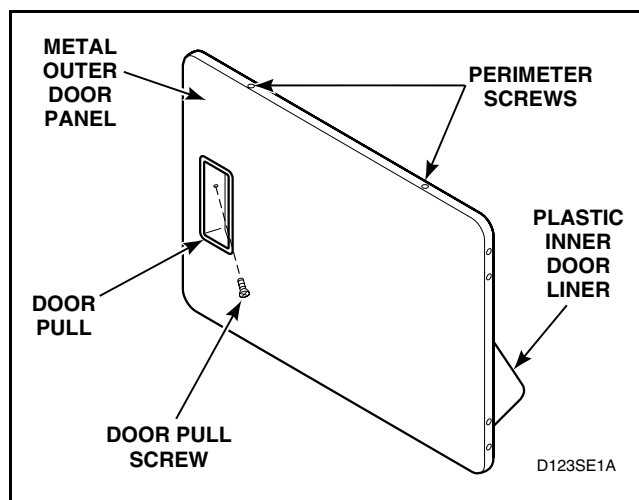

Figure 23
- Remove screw from door pull and the remaining screws around the door perimeter. Refer to *Figure 23*. Set hinges aside at this time.